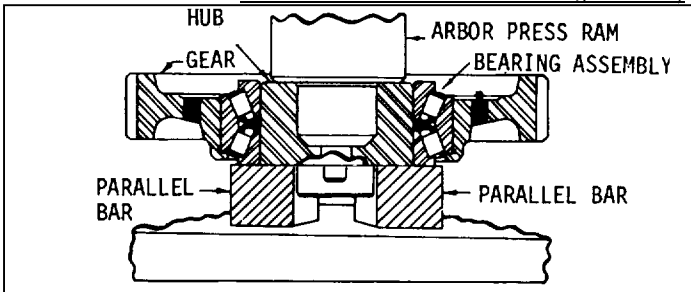

Fig. 4
- (1) Support the idler gear, shoulder down, on the bed of an arbor press. Start one of the bearing cups, numbered side up, squarely into the bore of the gear. Then press the bearing cup against the shoulder of the gear. Use a flat steel plate (pre-load test plate) between the ram of the press and the bearing cup.
- (2) Lay the outer spacer ring on the face of the bearing cup.
- (3) Start the other bearing cup, numbered side down, squarely into the bore of the gear. Then press the cup tight against the spacer ring. Use a flat steel plate (pre-load test plate) between the ram of the press and the bearing cup.
- (4) Press the inner bearing cone (numbered side up) on the idler gear hub, flush with the inner hub mounting face. Use the pre-load test plate (with the large center hole) between the ram of the press and the bearing.
- (5) Install the inner spacer ring on the idler gear hub so that the oil hole in the hub is 180° from the gap in the inner spacer ring.
- (6) Position the gear with both cups over the hub and the inner bearing cone.
- (7) Press the outer idler gear bearing cone over the hub while rotating the gear to seat the rollers properly between the cones. The bearing cones must be supported so as not to load the bearing rollers during this operation (Fig. 4).
- (8) Before installing the gear and bearing assembly, check the pre-load.